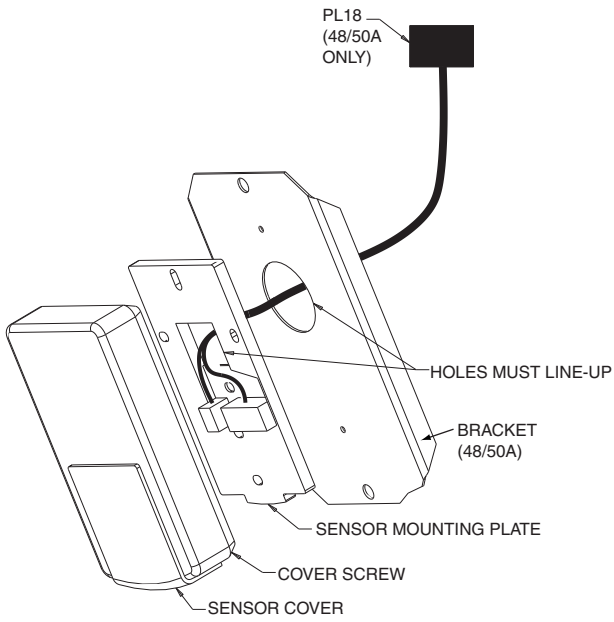

Fig. 3 — CO₂ Sensor Assembly
4. Secure mounting plate to bracket (48/50A) with no. 8 screws (see Fig. 3).
5. Wire the electrical harness to the sensor as shown in Fig. 3 and 4.